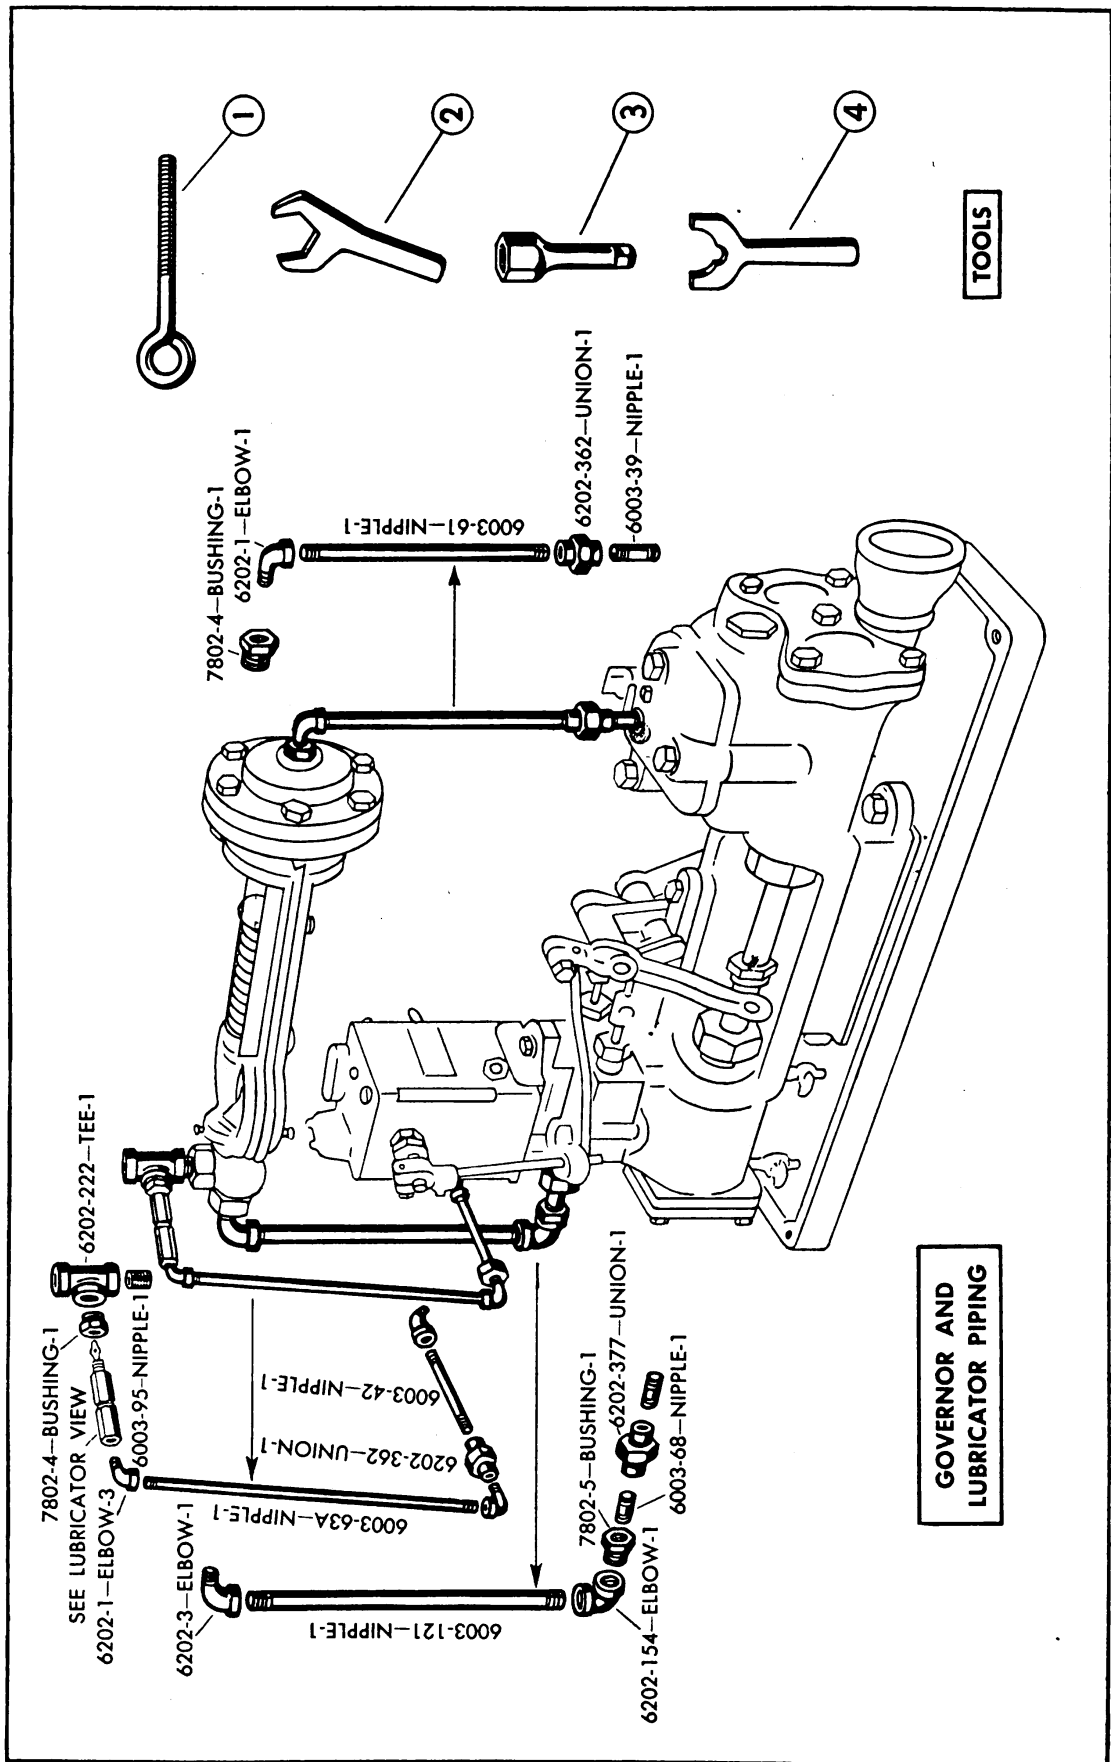

Fig. 11— Piping and Tools
Fig. 11 shows the piping arrangement and the tools furnished with the unit.
Break the pipe union in the steam inlet line and remove the six capscrews (1) holding steam cylinder head (2). Remove cylinder head, and if it is tight it can be loosened by lightly tapping the edges with a hammer, using care to prevent damage to the gasket (3). Using wrench (4, fig. 11) on the hexagon part of the piston rod spool (30) to hold it, remove steam piston rod nuts (4), using wrench (3, fig. 11). Screw the puller bolt (1, fig. 11) into the tapped hole provided on each steam piston (5) and withdraw pistons. Remove piston rings (6) from the pistons and clean piston and rings in fuel oil or solvent.
Break pipe union in governor pipe line to valve chamber. Remove the five capscrews (27) holding fluid cylinder head (28) and remove head, by tapping around the edge with a hammer, taking care not to damage the gasket. Using wrench (3, fig. 11), loosen both fluid piston rod nuts (31) and remove them along with the washers (32). (If steam end has not been dismantled, hold spools with
wrench (4, fig. 11) as outlined in preceding paragraph). Pull out both taper pins (29) on piston rod spools (30). Screw puller bolt (1, fig. 11) into the tap provided on the followers (33), and withdraw them from the body. (If the steam pistons have already been removed, the rods can be pulled through the fluid end of the body and the fluid piston assembly dismantled after removal.) Screw puller bolt into tap provided in fluid piston (34) and withdraw from cylinder. Remove rod boxes (35) by unscrewing from the body. The only practical way to remove the liners (36) in the field is to cut them out with a cold chisel, and these should never be removed unless it is necessary to make replacement. This also applies to the rod boxes which should never be removed unless they require replacement.
Piston rod boxes require $2\frac{1}{2}$ to 3 rings. The fluid rod boxes use a braided asbestos graphited packing. This is usually furnished in individual rings, cut to size, with a butt joint. Install one ring at a time, staggering the butt joints. Draw up the gland nuts tightly with wrench (2, fig. 11) and then back off a partial turn. The steam end rod boxes use a rubber and duck composition packing usually supplied with a lap cut. The installing procedure is the same as on the fluid end. Steam chest boxes use the same grade of packing as the steam rod box, but smaller in size and two rings per box. Install in the same manner as above, using gland nut wrench (4, fig. 11).